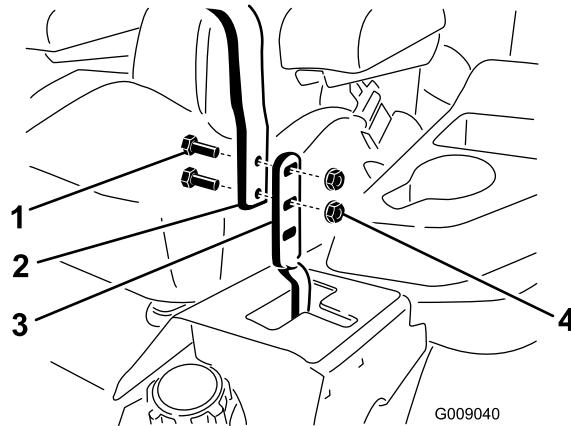

Figure 59
2. Loosen the bolts and flange nuts that attach the handles to the levers (Figure 59).